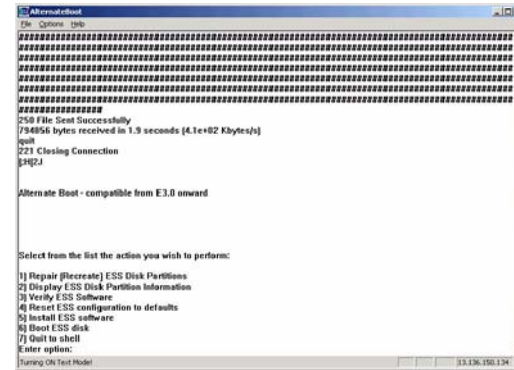

Figure 13 Checking Alternate Boot Menu
NOTE: Check Alternate Boot Menu (Figure 13).
- a. Type 5 (Figure 13) and press Enter.